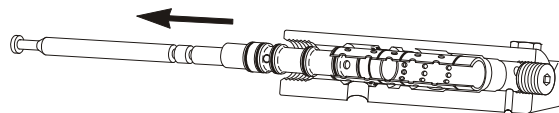

Figure 1: Insert tool in second row of holes in sleeve and if necessary, pry out with screwdriver.
2. If necessary, remove sleeve and bumper (rubber faced spacer at inside end of sleeve) with tool P/N 28584 as shown in figures 1, 2, and 3.